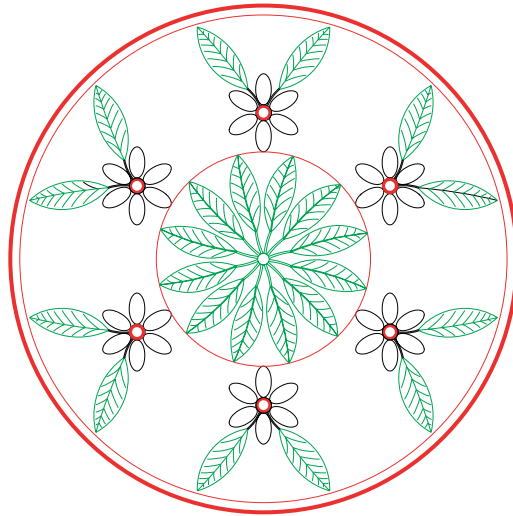

Fig. 10.7 Example – DXF file.
1. Open a drawing in AutoCAD. This example is shown in Fig. 10.7.